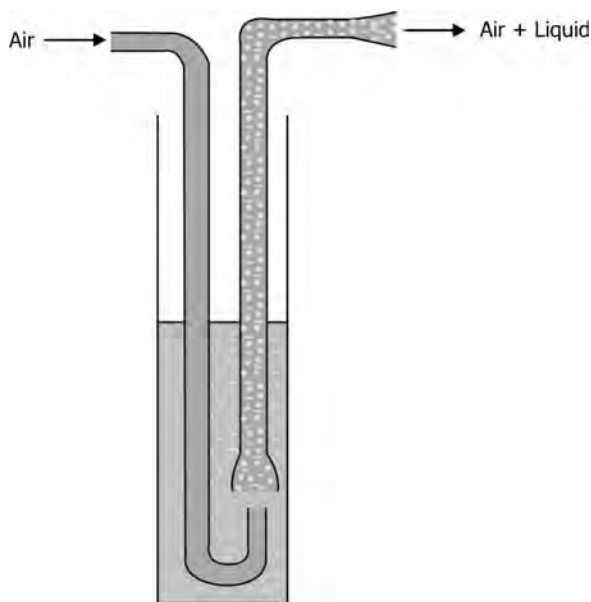

FIGURE 5.29 Airlift pump.
- In an airlift pump, liquid is raised by means of compressed air, as shown in Figure 5.29.